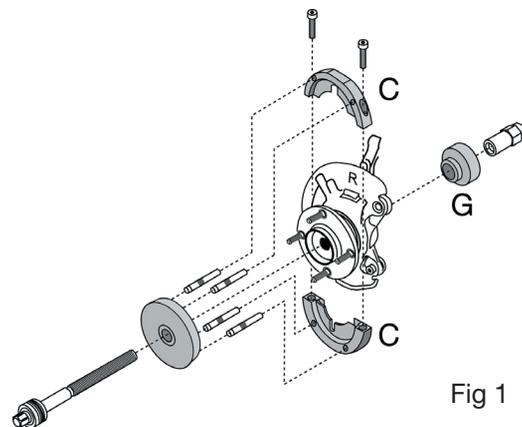
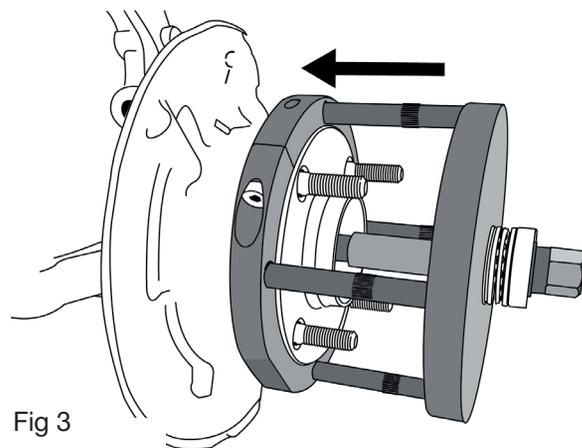

Fig 1
Fig 3
- Assemble the removal clamshells (C) to the bearing/flange; refer to diagram (Fig 1), secure with the set screws (D) supplied.
- Assemble the four force pins (E) to the force plate (B). The rubber O-ring on the force pin will secure it in the force plate socket.
- From behind, fit the extraction adaptor (G) over the end of the force screw. Collar-end in towards force screw - refer to Fig 1.
- Secure the assembled tool with the force screw nut (F). Long threaded end of force screw nut in towards force screw - refer to Fig 1.
- Refer to Fig 3: Offer up the force plate/pin assembly to the clamshells, and fit the main force screw through the force plate/pin assembly.
- From behind, fit the insertion adaptor (I) over the end of the force screw so that it sits on the outer edge at the rear of the hub carrier.